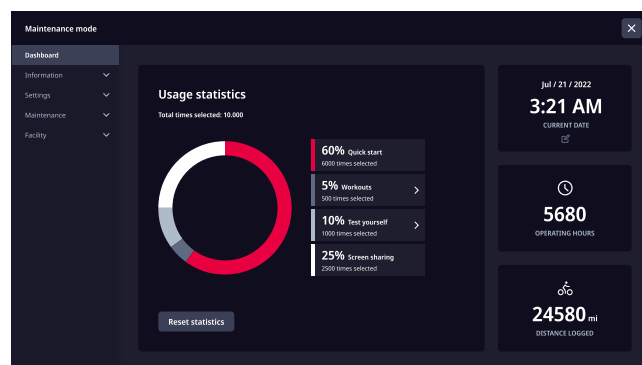

Fig. 55 Clock only shown in offline mode
11. If offline (Fig. 55), tap the date to change the console date and time.